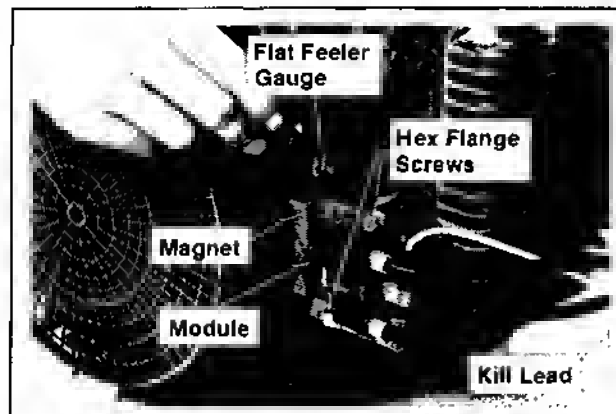

Figure 11-39. Installing Ignition Module.
4. Insert a .014" flat feeler gauge or shim stock between magnet and module. Loosen the hex. flange screws so magnet pulls the module against feeler gauge (refer to Figure 11-39). Tighten the hex flange screws securely. Remove the feeler gauge or shim stock. Due to the pull of the magnet, the magnet-to-module air gap should be within the final range of .008"/.012".